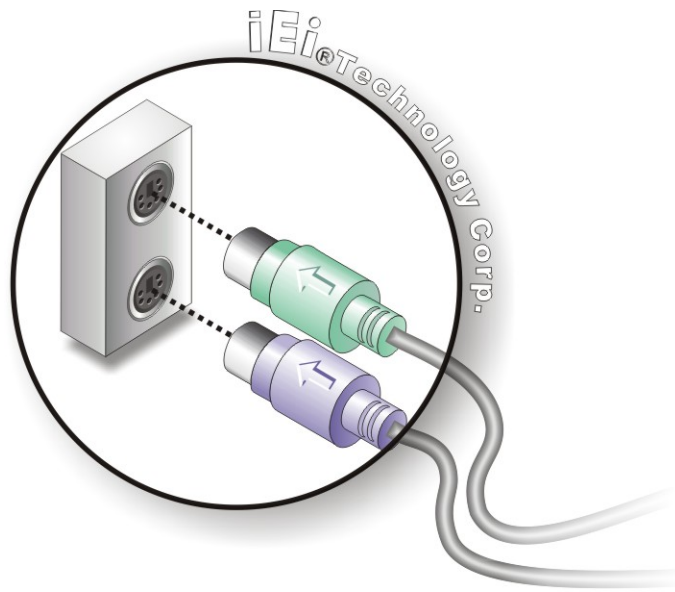

Figure 5-16: PS/2 Keyboard/Mouse Connector
Step 2: Insert the keyboard/mouse connector. Insert a PS/2 keyboard or mouse connector into the appropriate PS/2 connector on the external peripheral interface connector. See Figure 5-16.